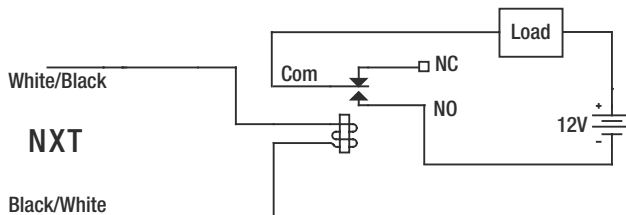

Figure 12-15. *Basic relay circuit*
Relays are controlled switches that use an electromagnet to move electrical contacts on and off. Usually relays have both normally open (NO) and normally closed (NC) contacts with a shared common connection. The common connection is also known as the *pole*. When the electromagnet is energized, the pole is pulled toward the NO contact to close it, and away from the NC contact to open it. Figure 12-15 shows the basic relay circuit. The load can be a device operating at a different voltage than the NXT, and also something that requires substantially more power than the NXT can deliver.